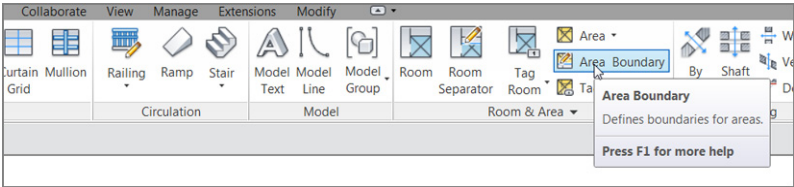

FIGURE 15.25: Clicking Area Boundary
- 5. On the Room & Area panel, click the Area Boundary button, as shown in Figure 15.25.